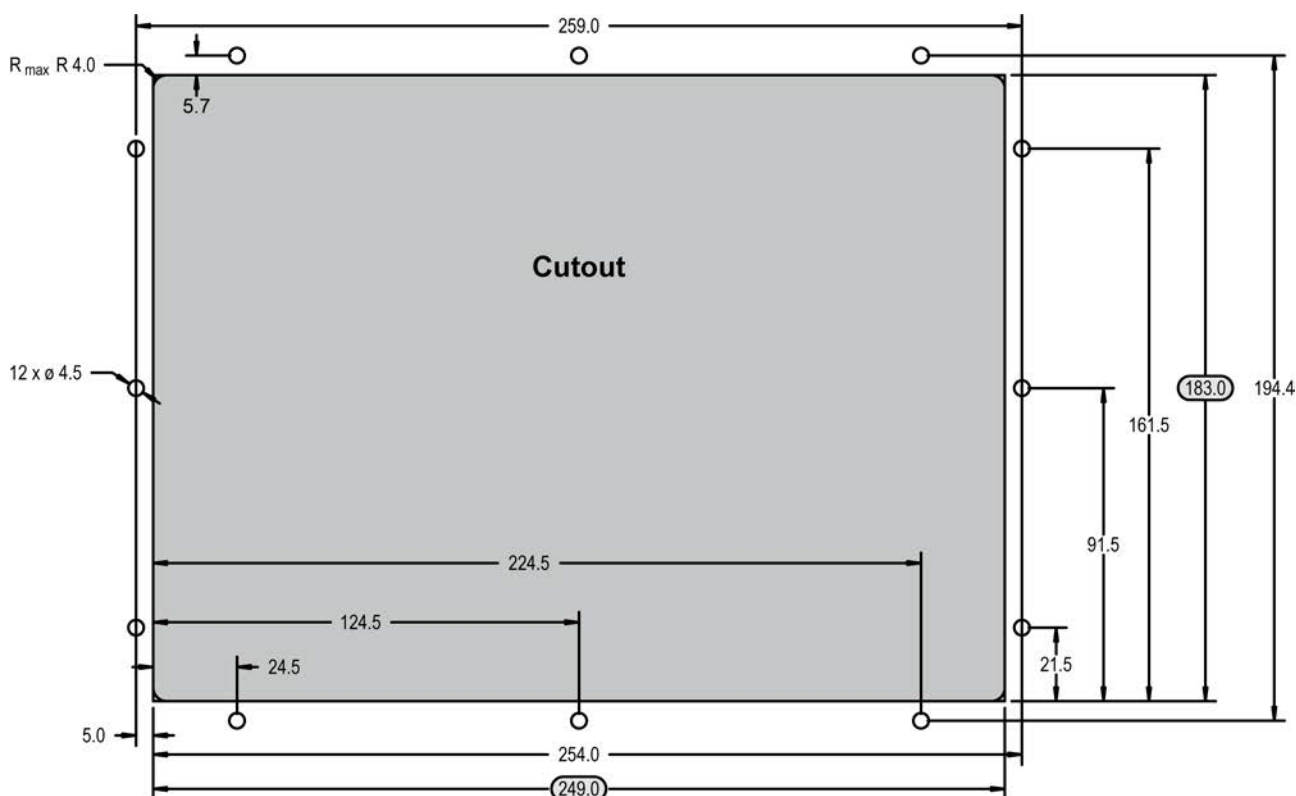

Fig. 18: Plastic housing - drill plan
The housing is equipped with 12 nut inserts (Fig. 18), which must all be tightened properly to achieve the required degree of protection.
1. ➤ Cut out the panel and drill the holes according to the dimensions in Fig. 18 (dimensions shown in mm).